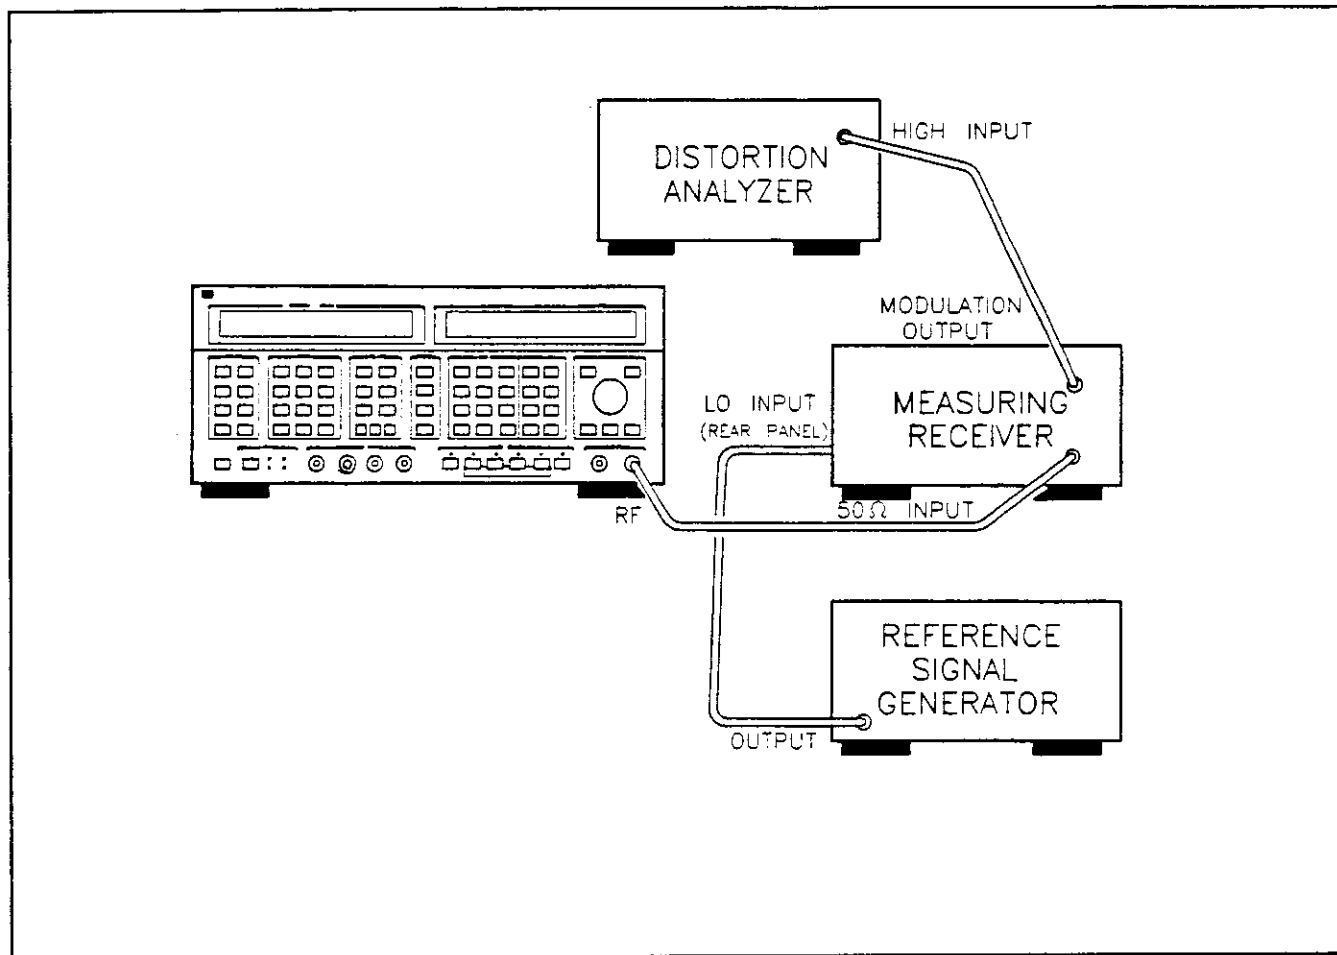

Figure 8-2. FM Test Setup
1. Connect the equipment as shown in figure 8-2 making note of the following details.
10. Connect the distortion analyzer to the modulation output of the measuring receiver. (Refer to figure 8-2.)